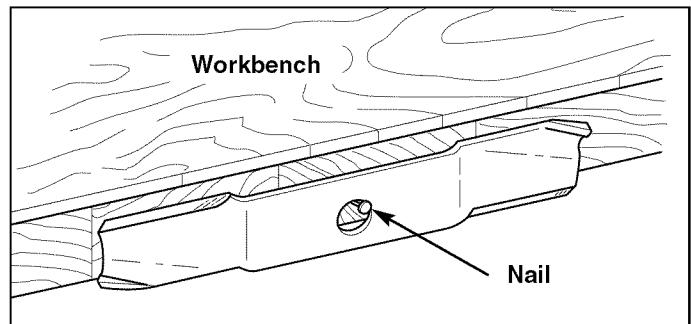

Figure 29. Balancing The Blade
5. Balance the blade as shown in Figure 29. Center the blade's hole on a nail lubricated with a drop of oil. A balanced blade will remain level.